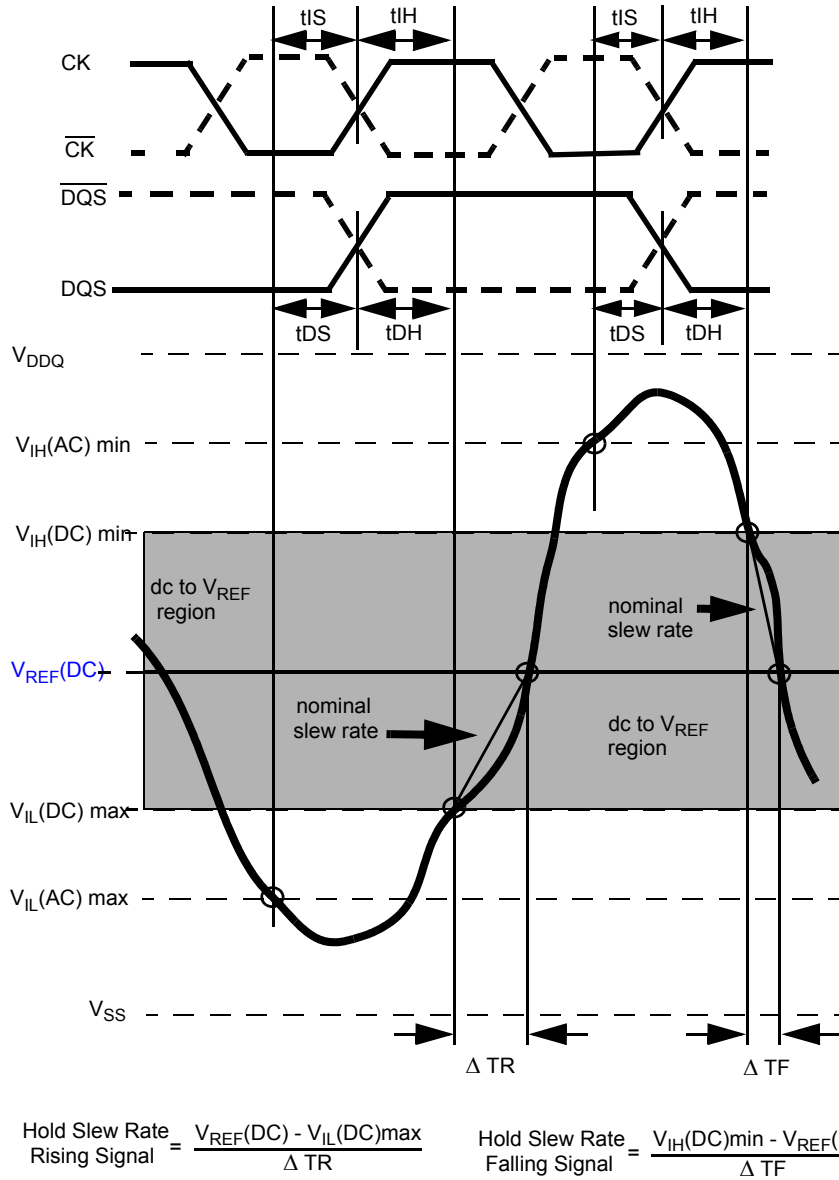
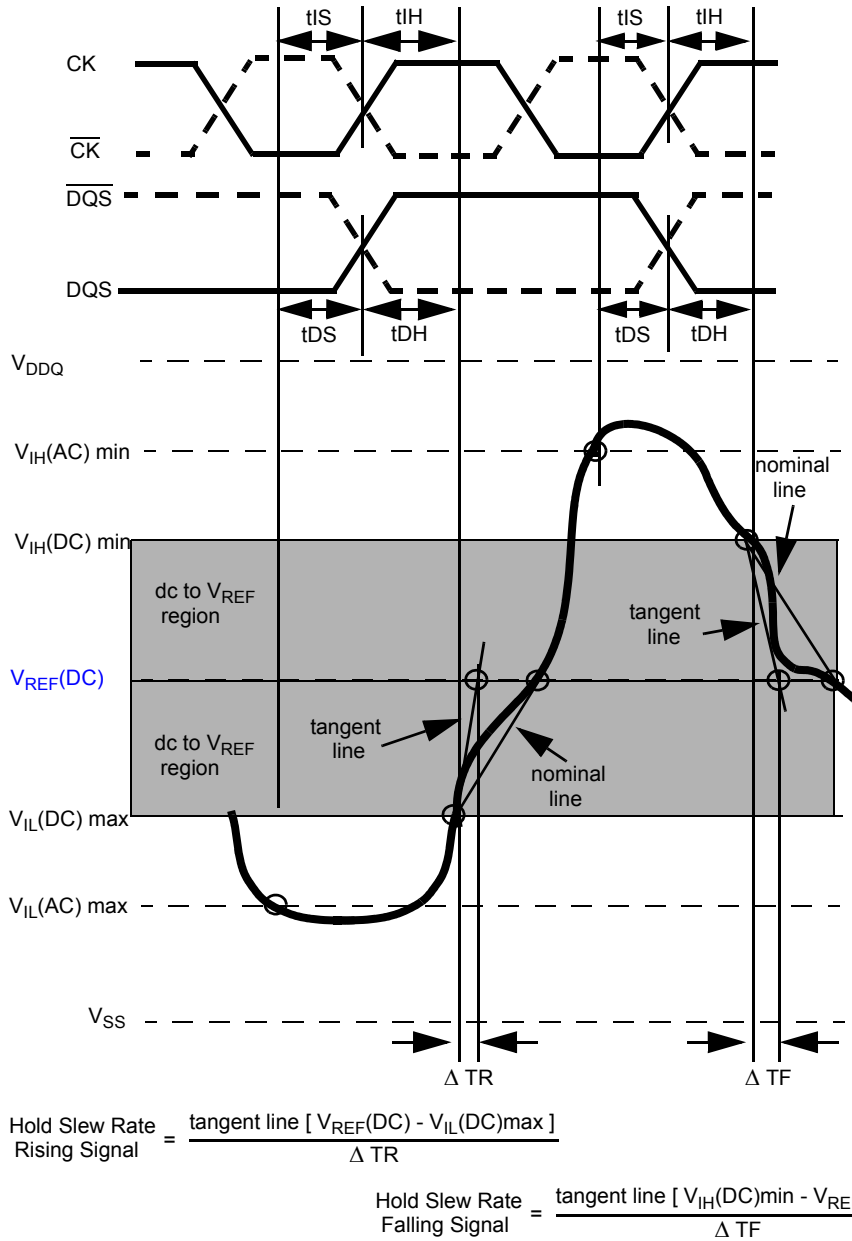

Figure 22. Illustration of nominal slew rate for hold time  $t_{DH}$  (for DQ with respect to strobe) and  $t_{IH}$  (for ADD/CMD with respect to clock).
Figure 24. Illustration of tangent line for hold time  $t_{DH}$  (for DQ with respect to strobe) and  $t_H$  (for ADD/CMD with respect to clock)
Hold (tIH) nominal slew rate for a rising signal is defined as the slew rate between the last crossing of VIL(DC) and the first crossing of VREF(DC). Hold (tIH) nominal slew rate for a falling signal is defined as the slew rate between the last crossing of VIH(DC)min and the first crossing of VREF(DC). If the actual signal is always later than the nominal slew rate line between shaded 'dc to VREF(DC) region', use nominal slew rate for derating value (see Figure 22). If the actual signal is earlier than the nominal slew rate line anywhere between shaded 'dc to VREF(DC) region', the slew rate of a tangent line to the actual signal from the dc level to VREF(DC) level is used for derating value (see Figure 24).